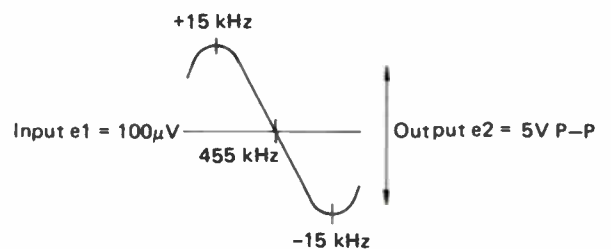

FIGURE 4. IF DISCRIMINATOR CURVE
Step 3: Adjust T4, T5, T6, T7 of IF amplifier so that the 455 kHz marker is in the center of the discriminator curve and for best linearity as shown in Figure 4.